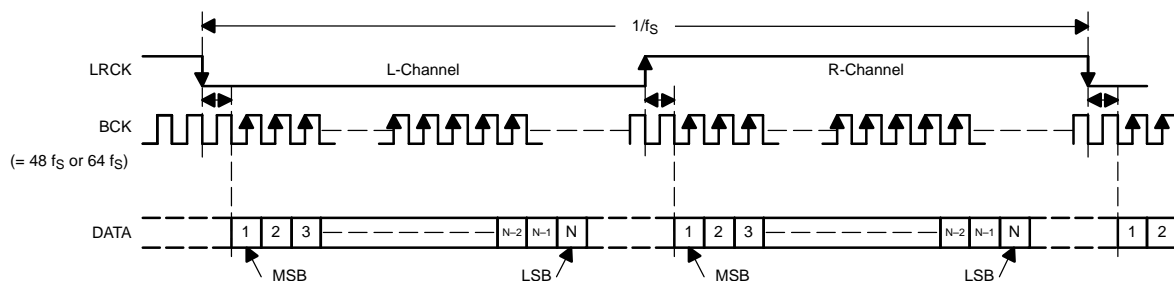

Figure 18. Audio Data Input Formats
The TPA3200D1 supports I²S and 16-bit-word right-justified. The data formats are shown in Figure 18. Data formats are selected using the FORMAT pin on the TPA3200D1. All formats require binary 2s-complement, MSB-first audio data. Figure 17 shows a detailed timing diagram for the serial audio interface.
(1) A digital data stream consists of two channels of data. In an I²S or right-justified data stream, the left-channel data precedes the right-channel data (See Figure 18). The LR_SEL input selects the channel to send to the mono output.